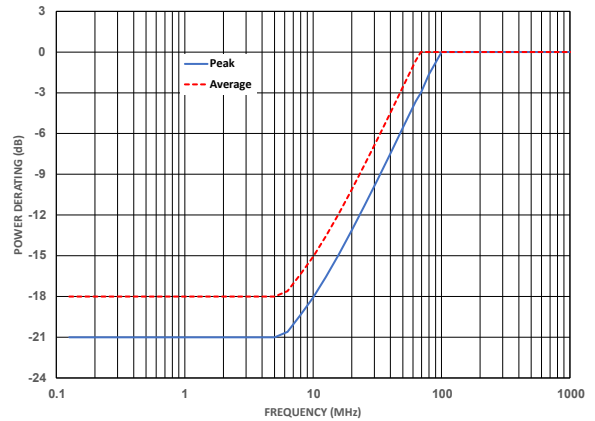

Figure 2. Power Derating vs. Frequency, T_{CASE} = 85°C
³ For power derating over frequency, see Figure 2.
- ² For power derating over frequency, see Figure 2.